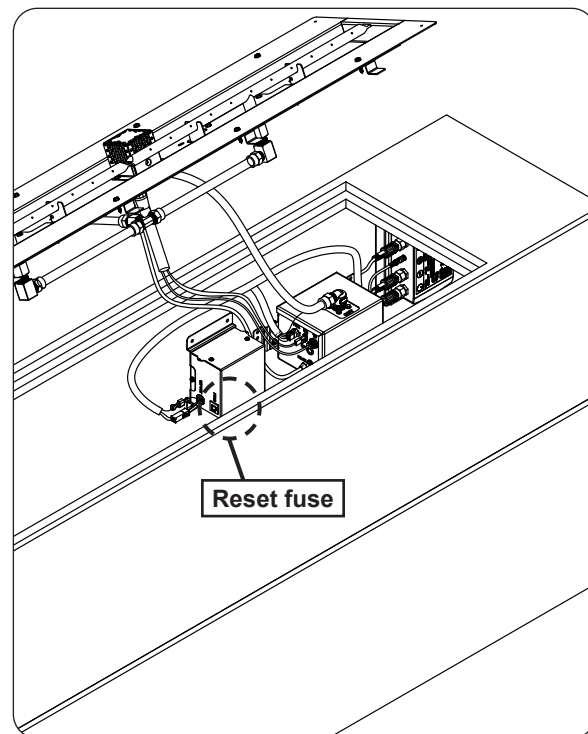

Fig. 41-2 Reset fuse
3. Gain access to the valve box and reset the fuse as shown in Fig. 41-2.